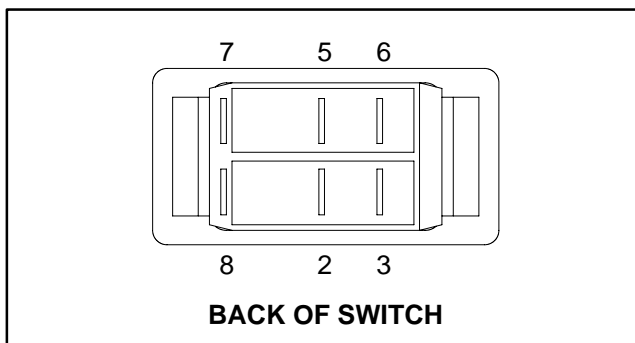

Figure 17
3. The switch terminals are marked as shown in Figure 17. In the ON position, continuity should exist between terminals 2 and 3. In the momentary SET position, continuity should exist between terminals 2 and 3 and also between terminals 5 and 6. In the OFF position, there should be no continuity between any switch terminals.